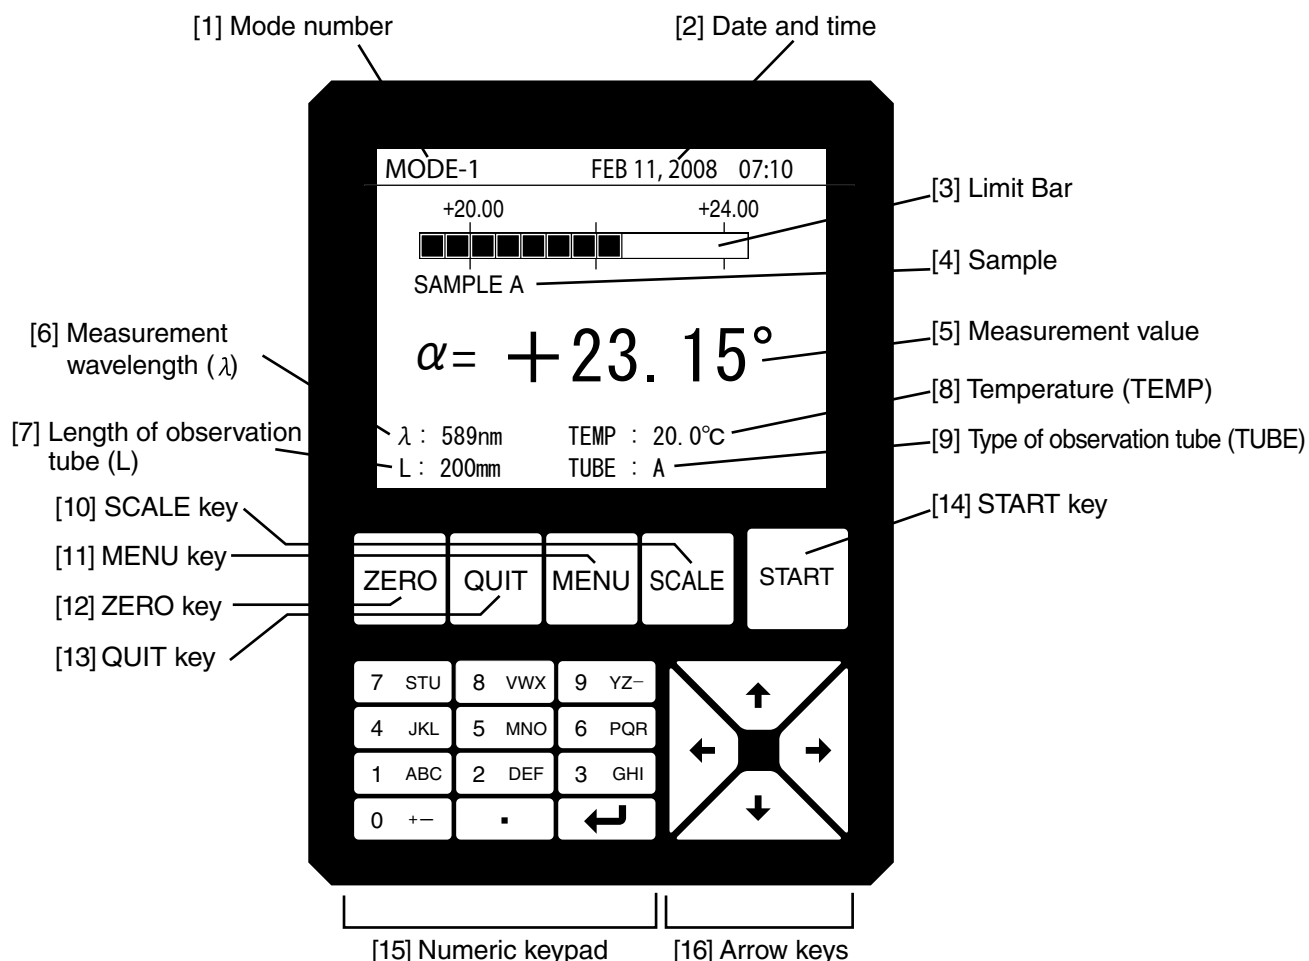

Fig.3-9
(3)-6 Display of a Measurement Value for the Limit Bar Setting (Fig.3-9)